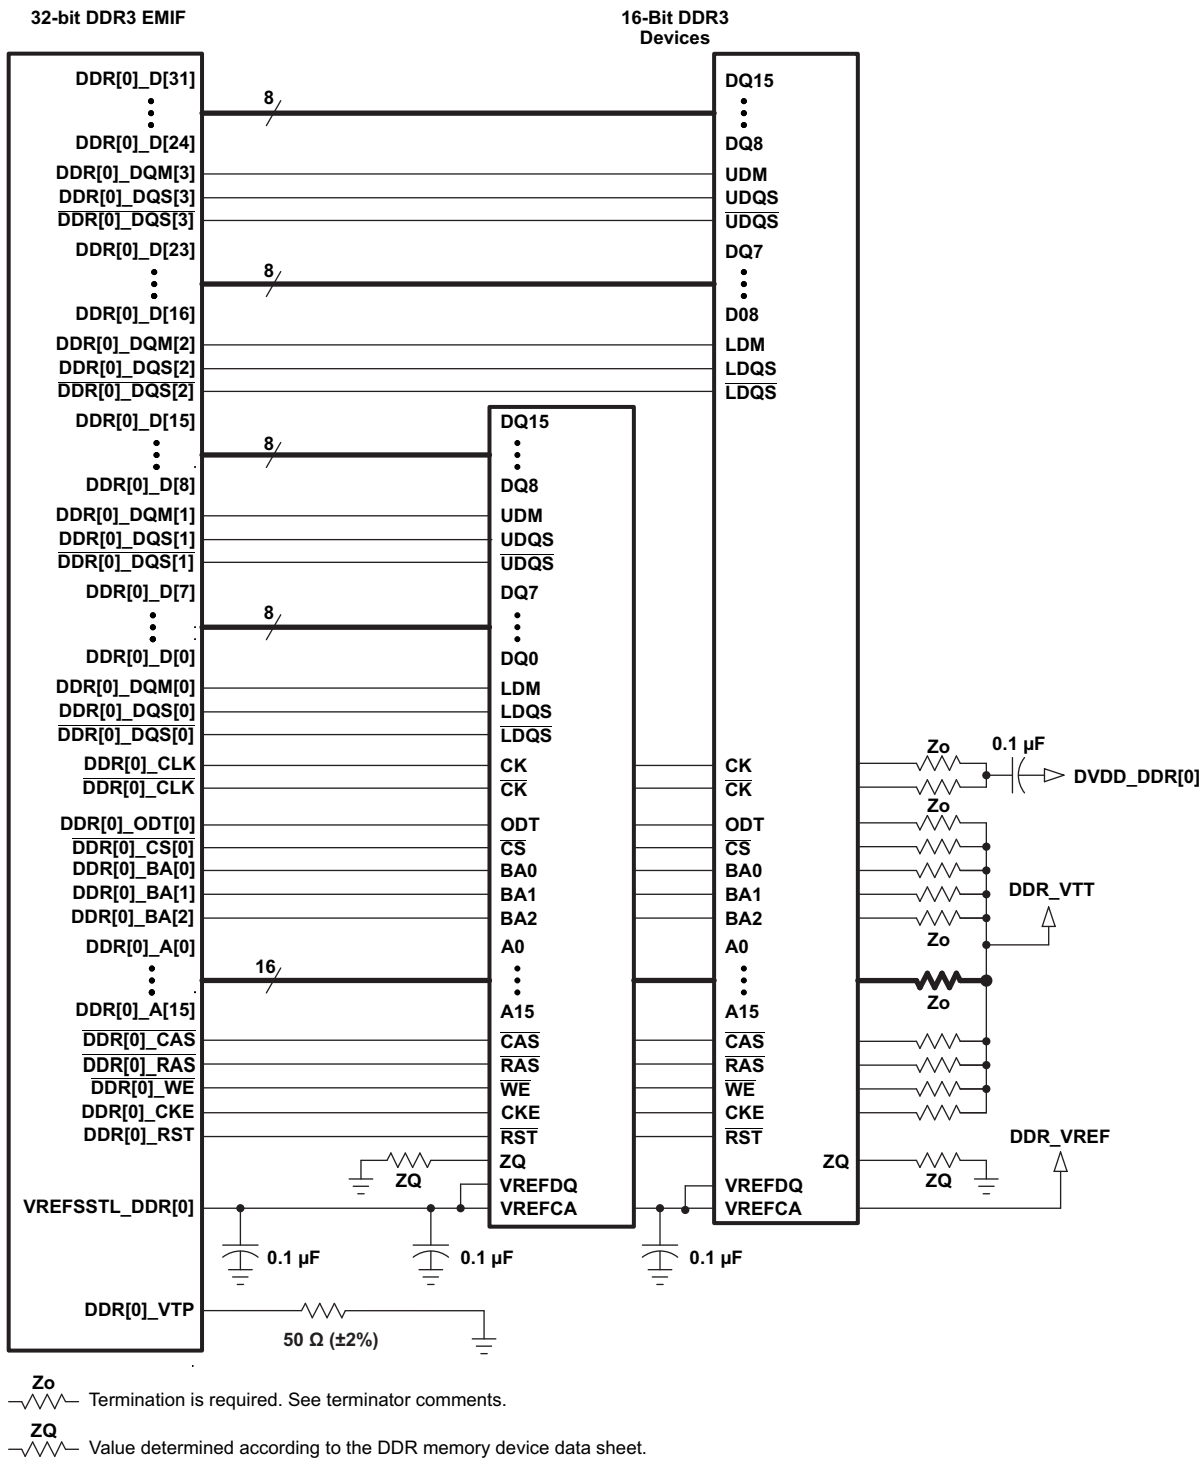
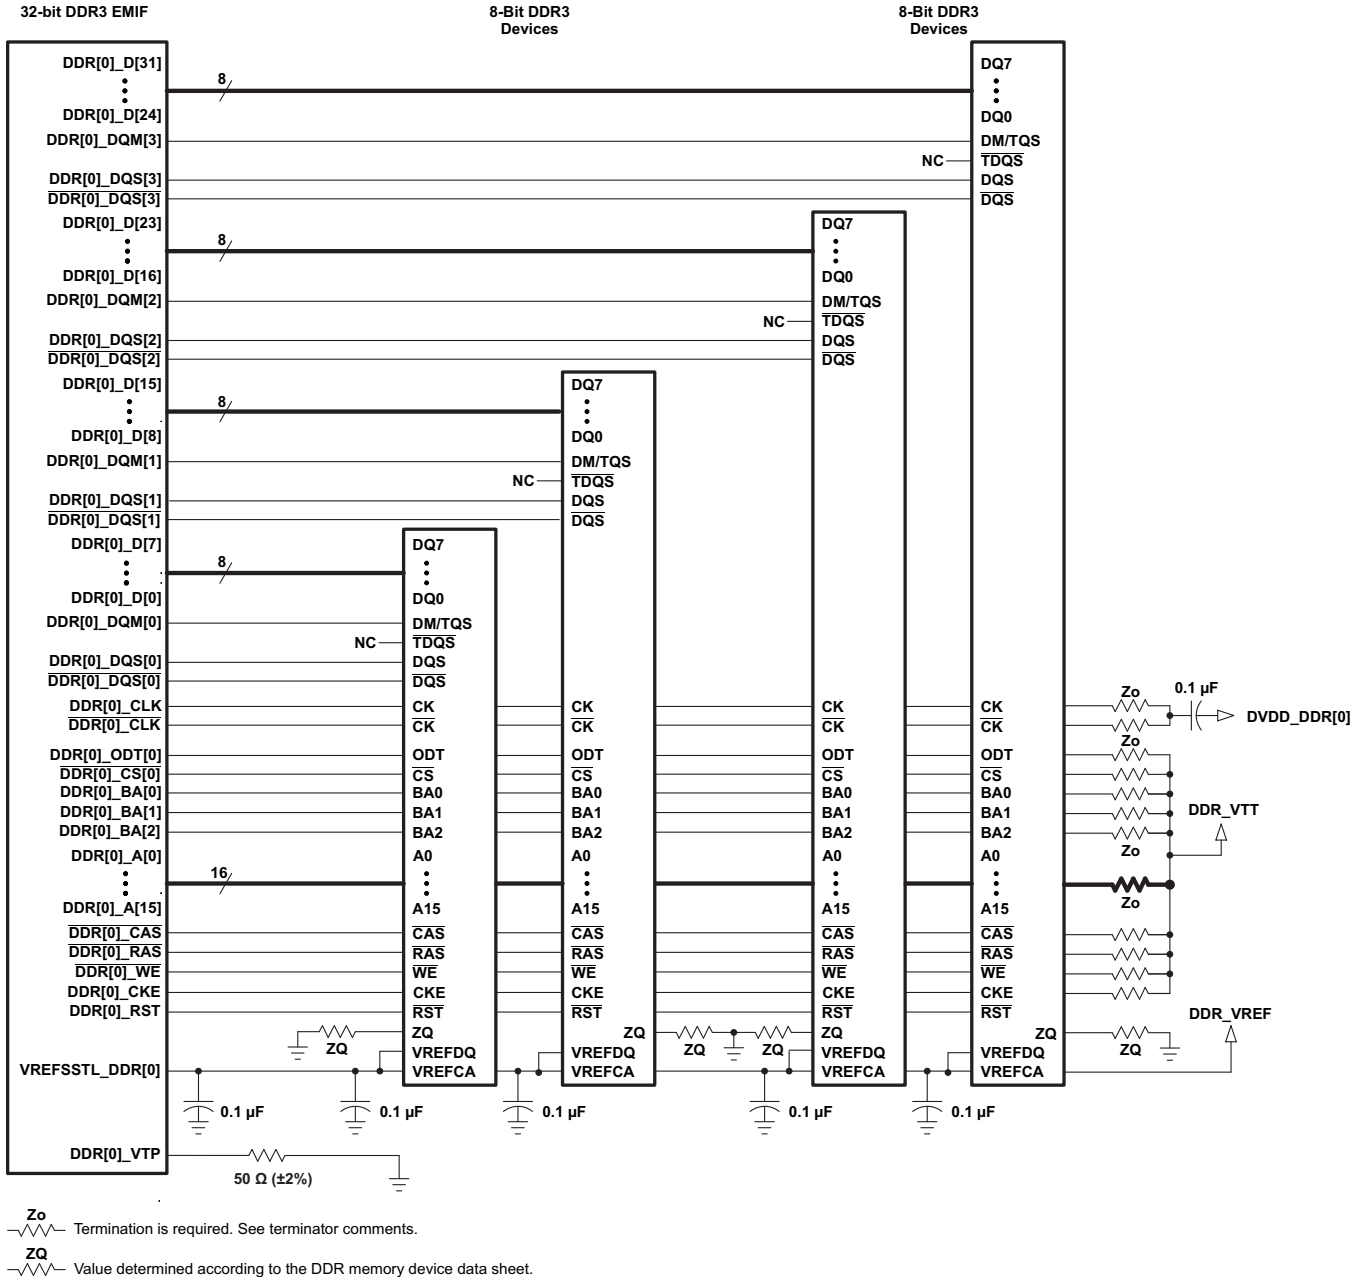

Figure 8-45. 32-Bit, One-Bank DDR3 Interface Schematic Using Two 16-Bit DDR3 Devices
Figure 8-46. 32-Bit, One-Bank DDR3 Interface Schematic Using Four 8-Bit DDR3 Devices
The DDR3 interface schematic varies, depending upon the width of the DDR3 devices used and the width of the bus used (16 or 32 bits). General connectivity is straightforward and very similar. 16-bit DDR devices look like two 8-bit devices. Figure 8-45 and Figure 8-46 show the schematic connections for 32-bit interfaces using x16 devices.
Note that the 16-bit wide interface schematic is practically identical to the 32-bit interface (see Figure 8-45 and Figure 8-46); only the high-word DDR memories are removed and the unused DQS inputs are tied off. The processor `DDR[0]_DQS[2]` and `DDR[0]_DQS[3]` pins should be pulled to the DDR supply via 1-k Ω resistors. Similarly, the `DDR[0]_DQS[2]` and `DDR[0]_DQS[3]` pins should be pulled to ground via 1-k Ω resistors.
(1) DDR3 speed grade depends on desired clock rate. Data rate is 2x the clock rate. For DDR3-800, the clock rate is 400 MHz.
(2) DDR3 devices with higher speed grades are supported; however, max clock rate will still be limited to 533 MHz as stated in Table 8-46 *Switching Characteristics Over Recommended Operating Conditions for DDR3 Memory Controller*.
(3) For valid DDR3 device configurations and device counts, see Section 8.12.3.3, Figure 8-45, and Figure 8-46.